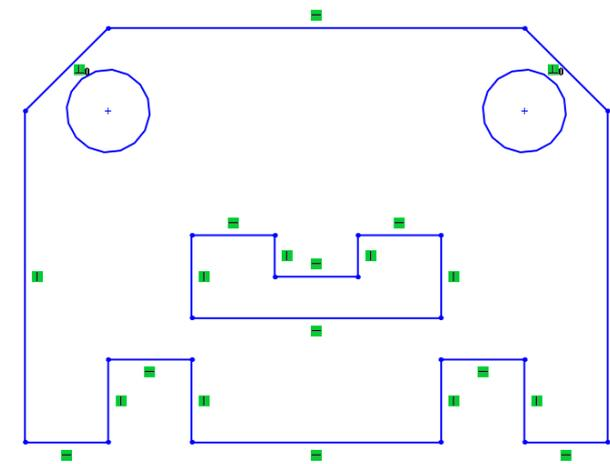

Figure 2-74 Final sketch for Tutorial 4
- Choose the **Zoom to Fit** button from the **View (Heads-Up)** toolbar to fit the display of the sketch into the screen. The final sketch for Tutorial 4 is shown in Figure 2-74.